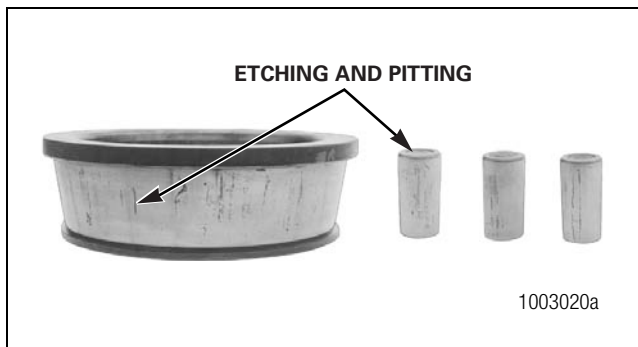

Figure 4.5
- There is damage on the rollers and on the surfaces of the cup and cone inner race that touch the rollers. Figure 4.5.